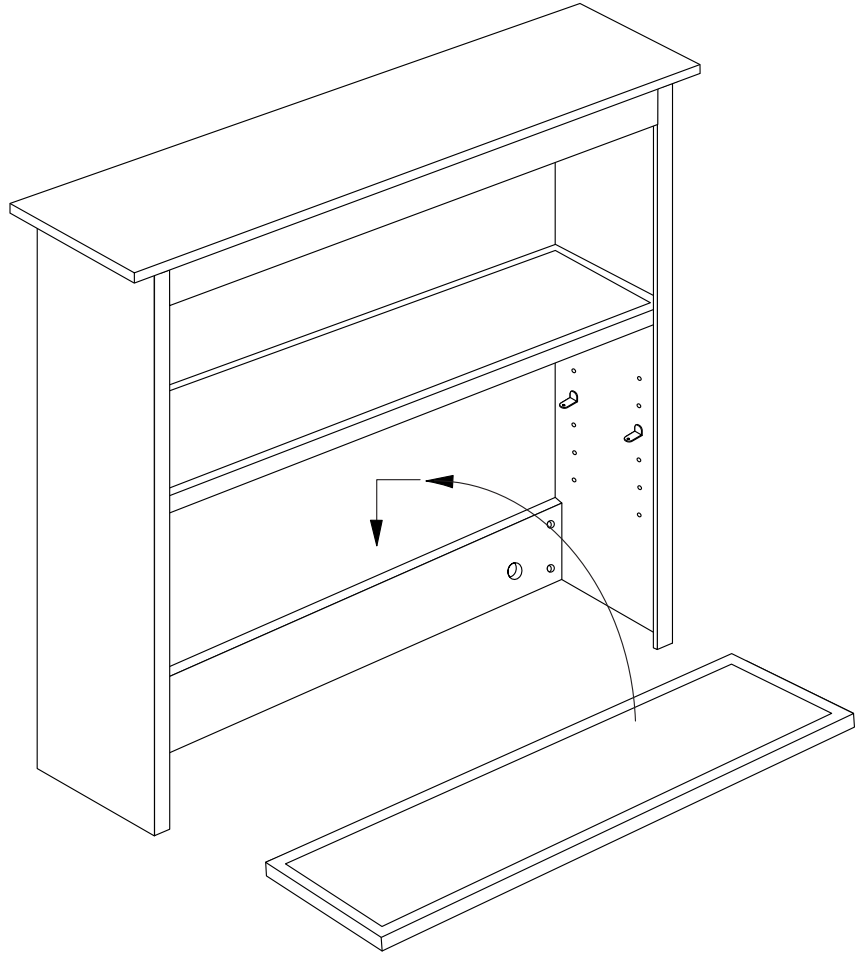

Figure 7A:
- A.** According to your need, choose a desired shelf height position and insert the shelf pegs as shown in Fig. 7A.